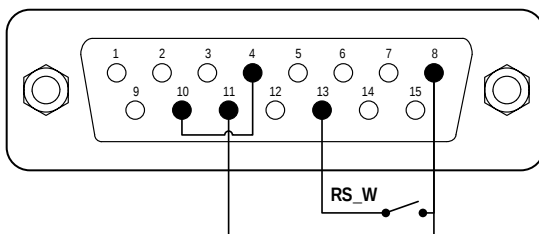
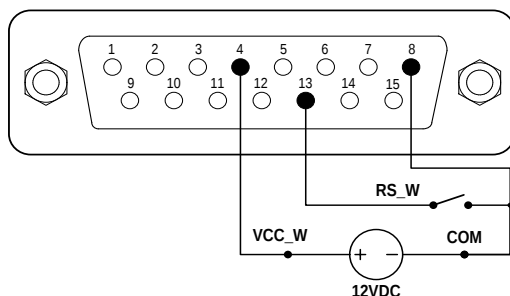

Figure 45. Control Start/Stop with Internal 12V Power Source
Figure 46. Control Start/Stop with External 12V Power Source
- 1) Turn the power off. Wire the DB15 connector as shown in Figure 45 or Figure 46, and connect it to the DB15 port on the rear of the pump.